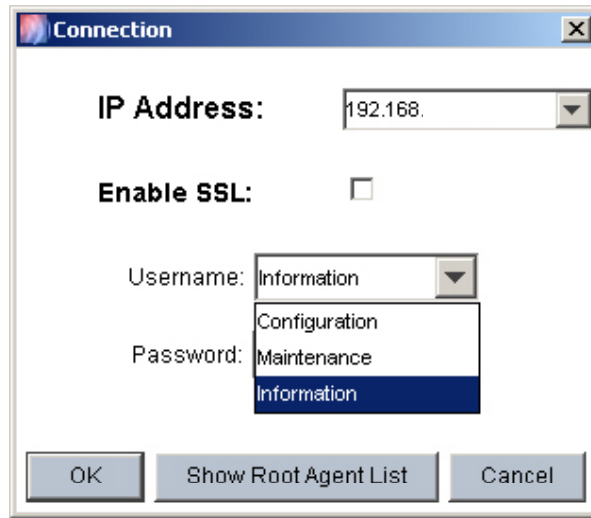

Figure 6-4: RAIDWatch Connection Window
Step 2. The RAIDWatch Manager should be launched. The RAIDWatch Connection window should prompt and appear on the screen. (See *Figure 6-4*)